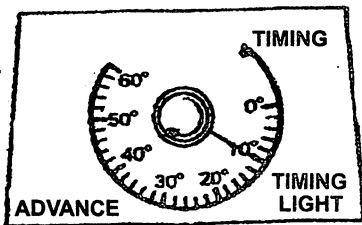

Figure 4
6. Start engine and operate at normal idle speed. Aim the timing light to timing mark as figure 4.